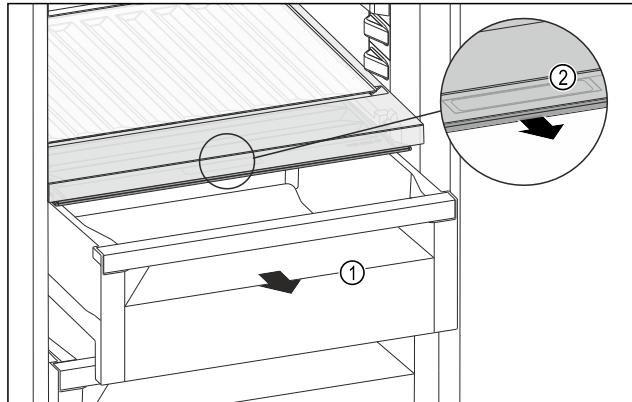

Fig. 158
- Pull out the drawer Fig. 158 (1).
- Grasp the recessed grip Fig. 158 (2) on the compartment lid and pull the compartment lid forwards at the same time.